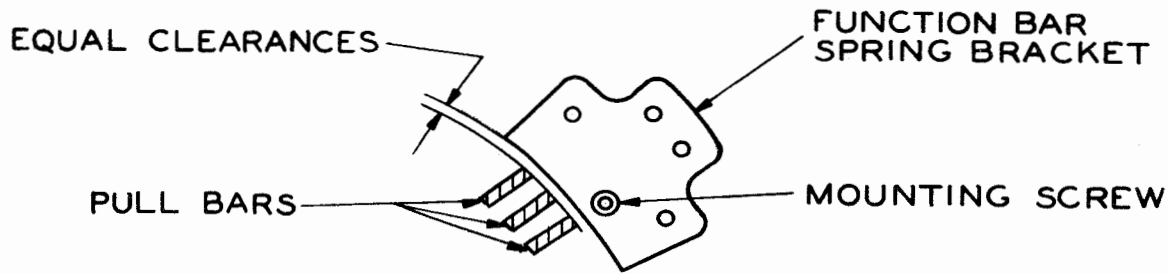

Figure 7
2.15 Function-bar Spring Bracket: The two end pullbars supported by the function-bar spring brackets shall have an equal amount of play in the segment. Gauge by eye. (See Figure 7.)